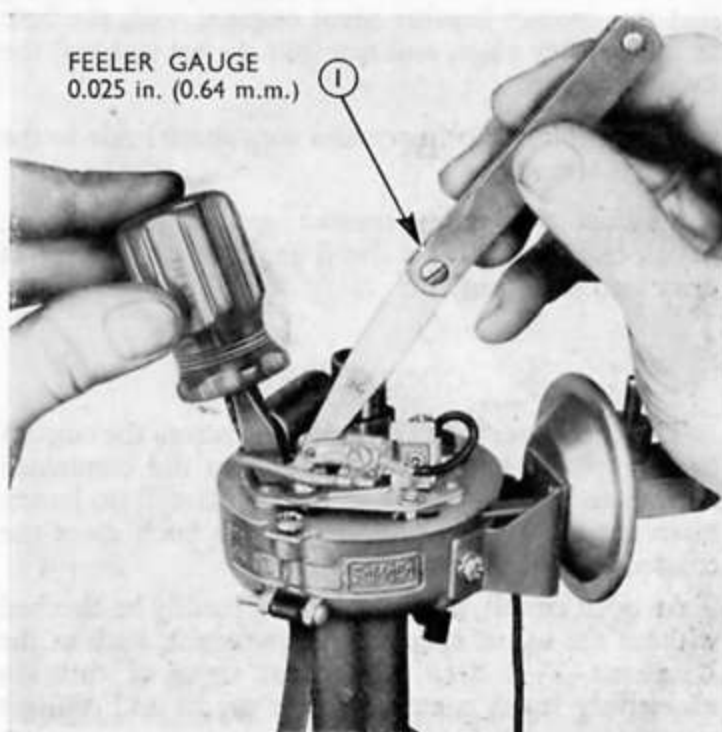

Fig. 33
3. Slacken the two locking screws on the contact breaker bracket and, by means of the vee notch in this component and the adjacent slot in the breaker plate, insert the blade of a screwdriver and adjust the points gap to 0.64 mm. (0.025 in.) (see Fig. 33).